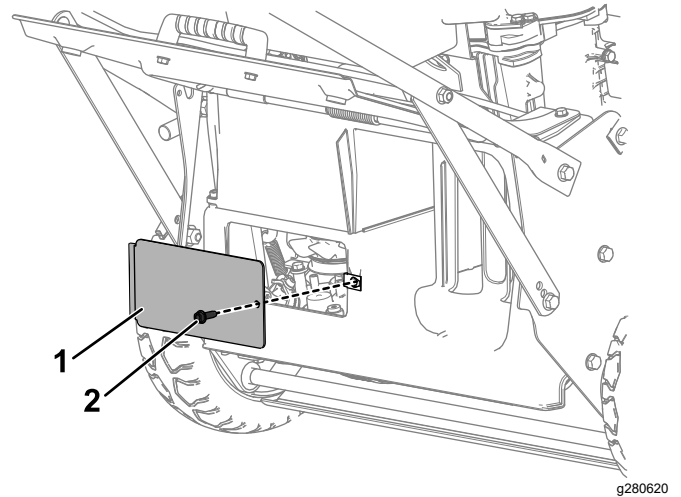

Figure 46
8. Remove the rear-viewing window, located under the rear-discharge deflector, by removing the bolt holding it in place (Figure 46).